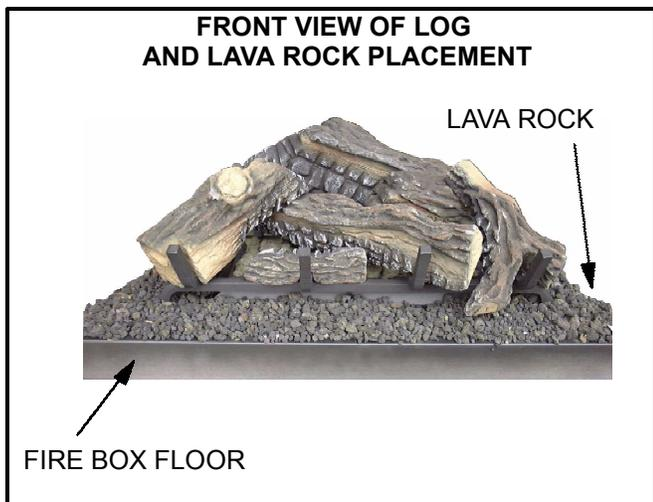

FIGURE 10
- 8 - Place the lava rock over the entire area of the fire box floor that surrounds the log set as shown in figure 10.